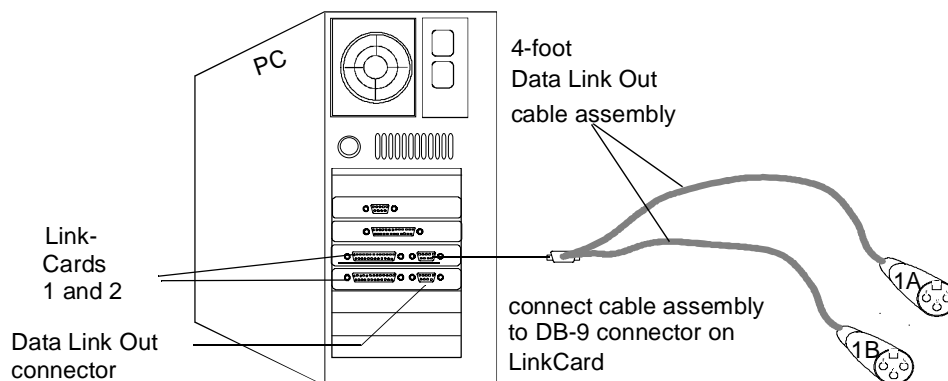

Figure 1.15. Connecting Data Out “Y” Cable to Link Card
1. Connect the DB-9 connector to the mating connector on the LinkCard. Tighten the thumb screws to secure the connector to the card. Refer to Figure 1.15